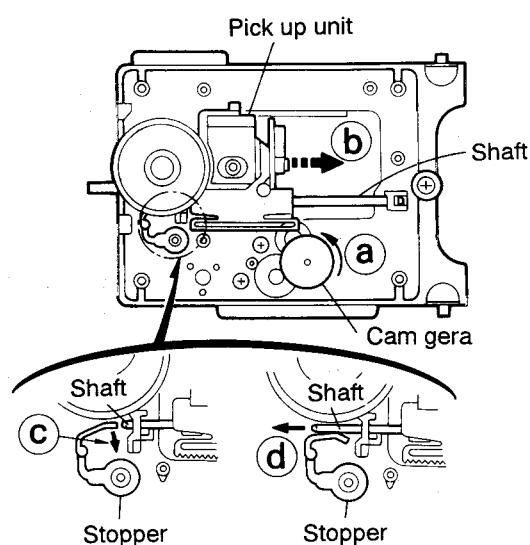

Fig. 5-27a
■ Removing the CD pickup unit (See Fig. 5-27a)
1. Move the cam gear in the arrow direction ①. Then, the CD pickup unit will be moved in the arrow direction ②.
2. According to the above step, shift the CD pickup unit to the center position (Fig. 5-27a).
3. While pressing the stopper retaining the shaft in the arrow direction ③, pull out the shaft in the arrow direction ④ (See Fig. 5-27a).